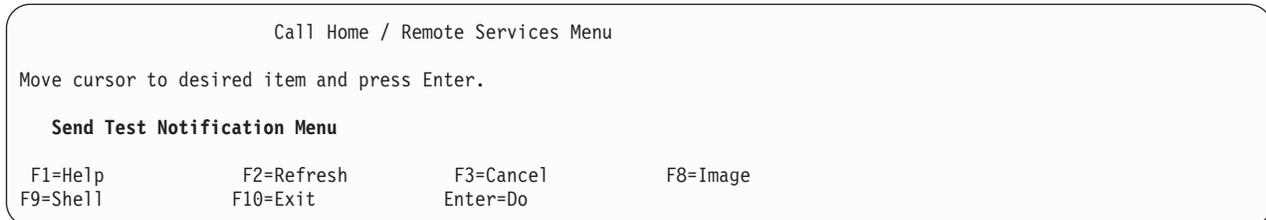
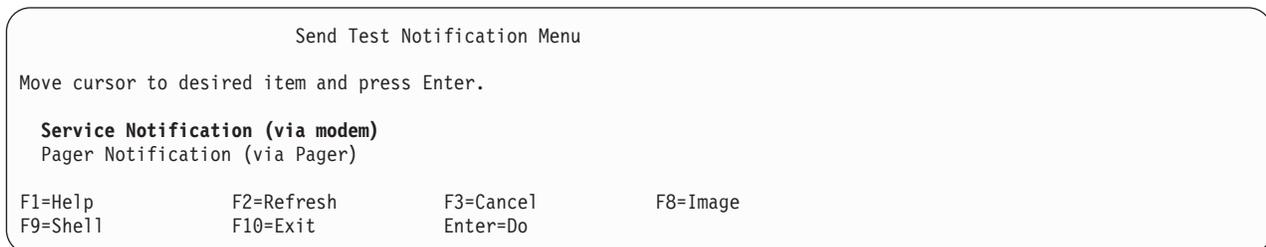
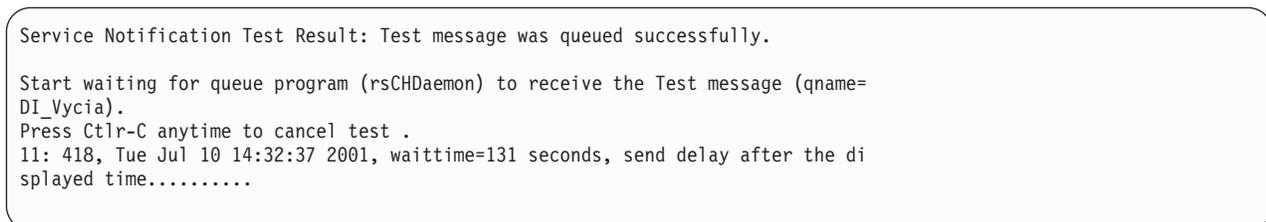

Figure 137. Call Home / Remote Services Menu – Send Test Notification Menu
Figure 138. Send Test Notification Menu – Service Notification
Figure 139. Send Notification Test Result Menu – Waiting
1. Return to the tape system's Call Home / Remote Service Menu at the Library Manager EBTERM Service Screen (if available). To test a call home through the TSSC, select **Send Test Notification Menu**, as shown at Figure 137. Press **Enter**. Figure 138 displays.
Attention: Select the illustrated line item **only at Figure 137**. No other menu display items are applicable for this process.
2. At Figure 138, select **Service Notification (via modem)**. Press **Enter**. Figure 139 displays.